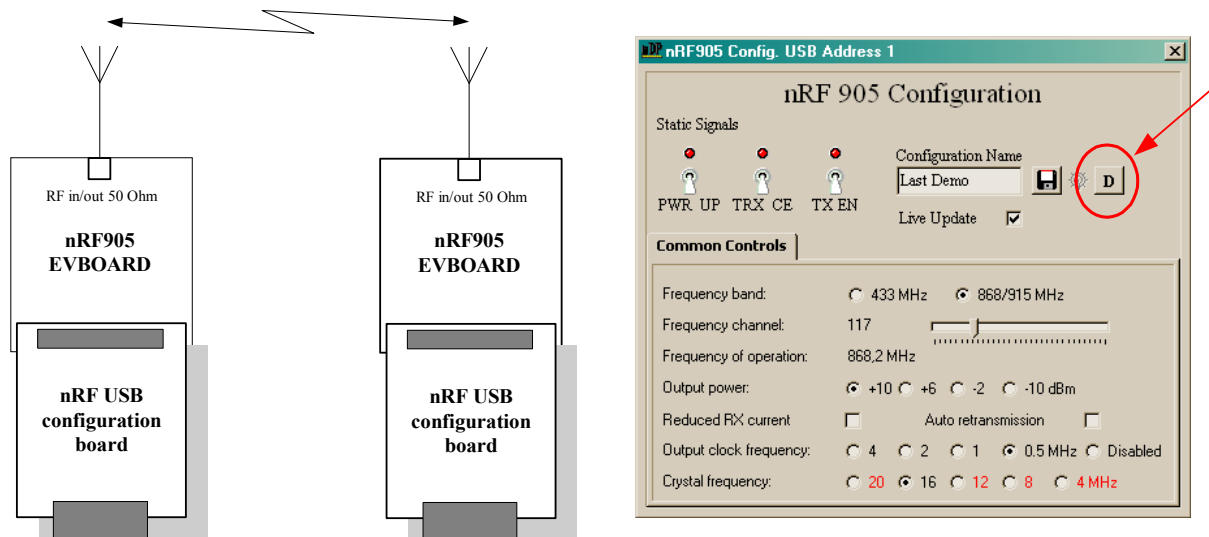

Figure 6 Communication range test set-up
- When ready, press the **D** button as shown in Figure 6